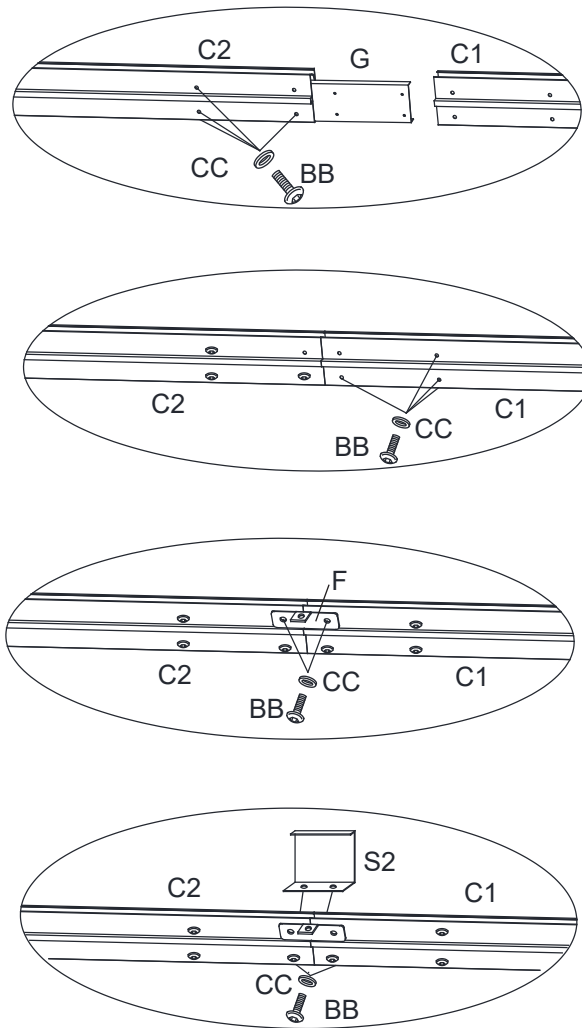

Fig.2.2
2.2. Connect the Short Left Lintel (C1) with the Short Right Lintel (C2) through the Lintel Connector - Large (G) with bolt (BB ) and washer (CC) , then connect the Connector (F) to the joint of the lintel (C1/C2) with bolt (BB) and washer (CC) , put the Lintel Cover - Center (S2) onto the joint of the two lintels with bolt (BB) and washer (CC), pay attention to install the screws based on the orders shown in the illustration. See.Fig.2.2